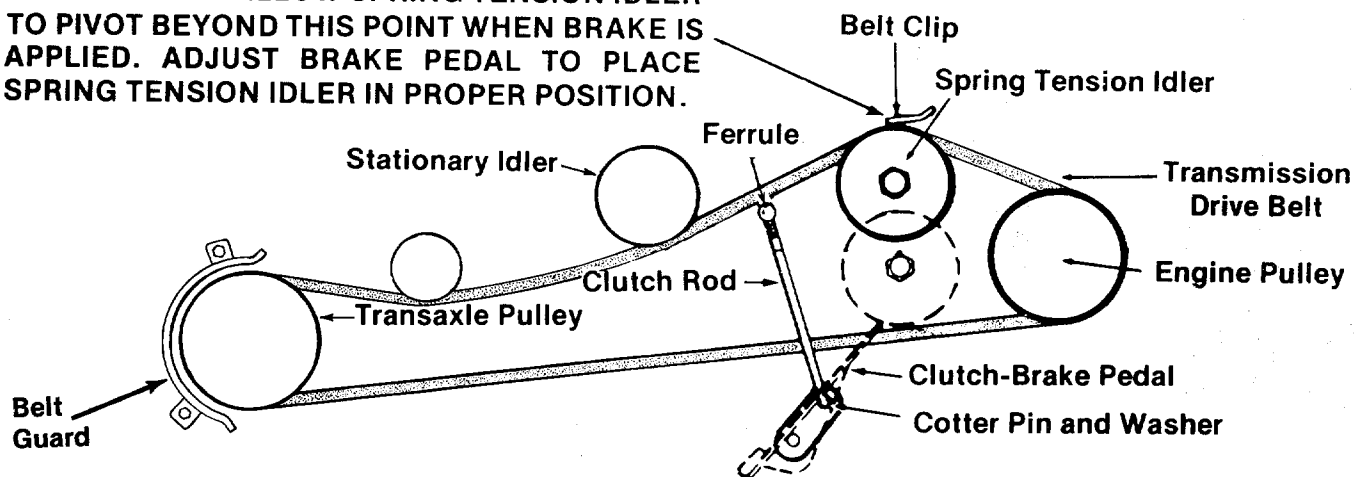

FIGURE 20.
To adjust the angle of the clutch-brake pedal, remove the cotter pin and washer on the clutch rod and turn the clutch rod in or out of the ferrule to obtain the most comfortable angle of the pedal when the pedal is released. Replace the washer and cotter pin. See figure 20.
- Step 5. Remove the belt guard on the transmission pulley. See figure 20.